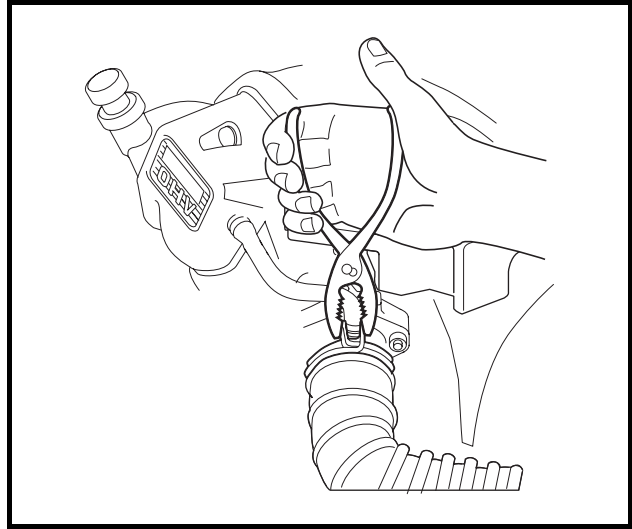

Figure 19-10 Air Intake Hose
- Disconnect the air intake hose from the carburetor (**Figure 19-10, Page 19-7**).